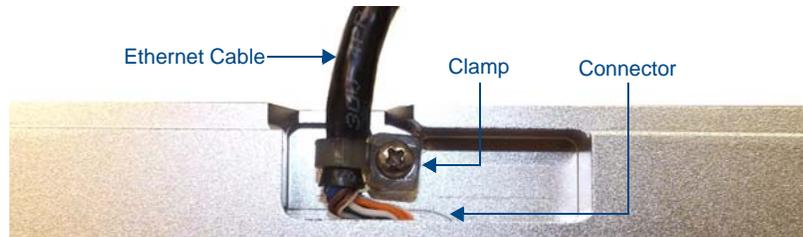

FIG. 28 Bottom of the MXT-700
In installations where you wish to conceal the Ethernet cable, a hole at least 1.00" (2.54 cm) in diameter is required in the surface to allow passage of the female RJ45 connector (FIG. 28).
2. Remove the clamp holding the Ethernet cable (FIG. 28).